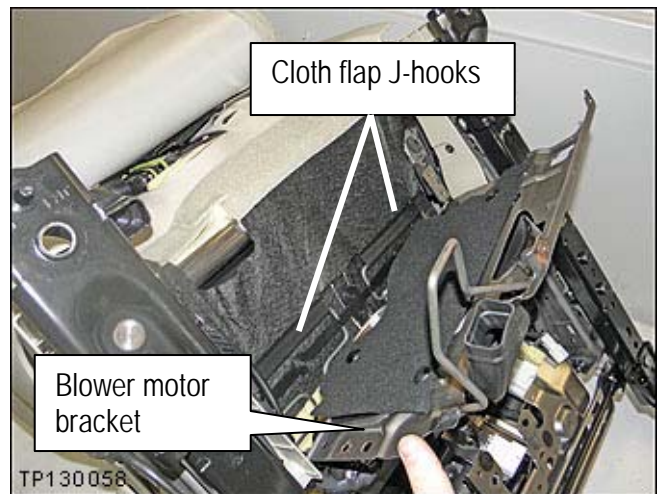

Figure 29
39. Reconnect the cloth flap J-hooks for the seat cushion trim to the seat frame (see Figure 29).